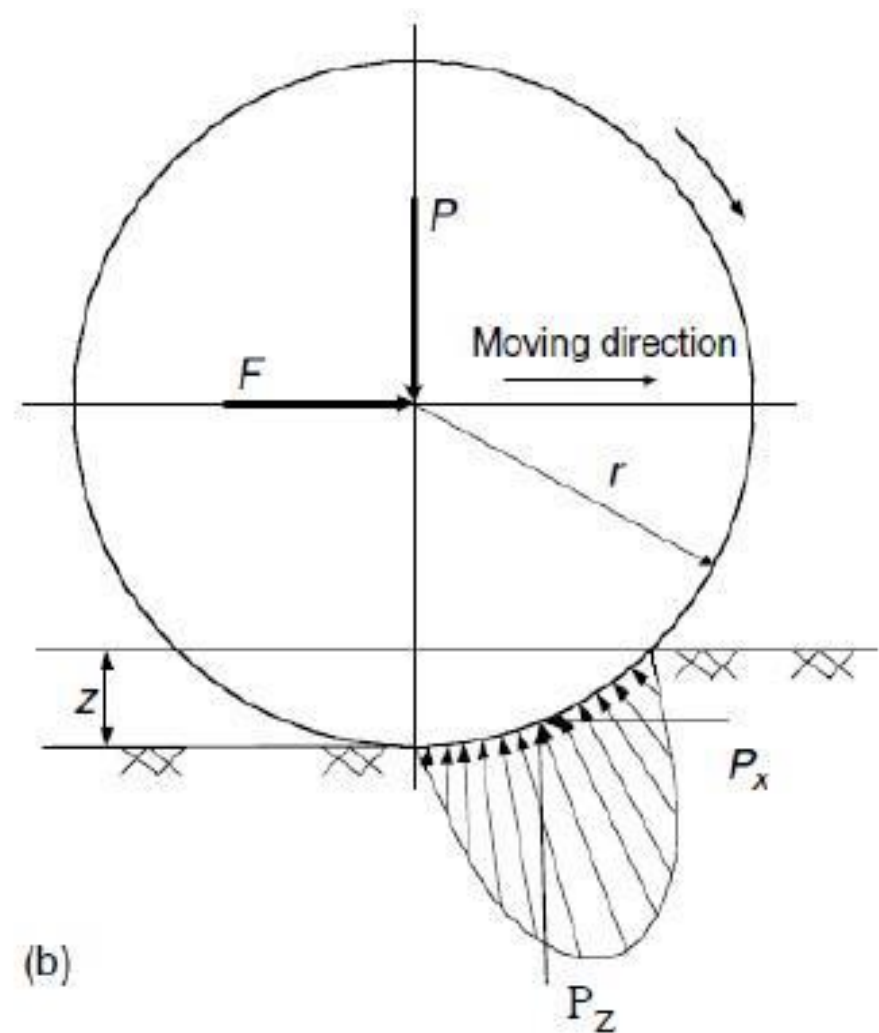

Figure 4b: Force acting on a tyre vs. deformation
- On soft surfaces, the rolling resistance is mainly caused by deformation of the ground surface, (**Figure 4b**).
10 Figure 4b: Force acting on a tyre vs. deformation in loading and unloading on a soft surface